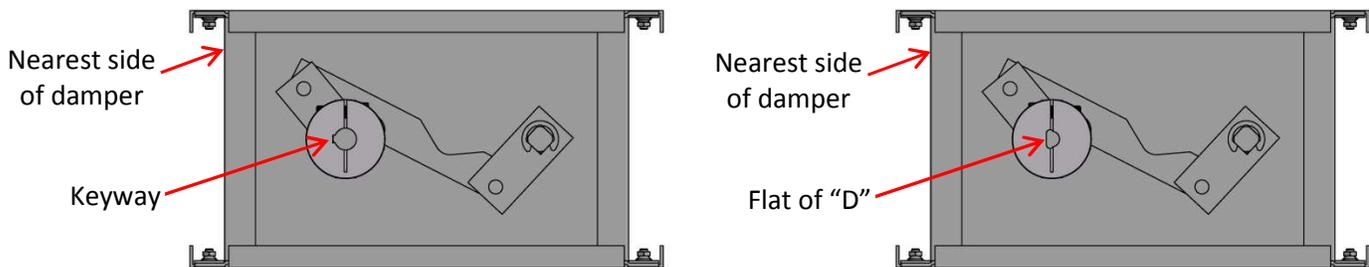

Figure 9: Coupling Alignment
5. Open the damper to its fully open position. Slide the coupling over the damper shaft so that the keyway (for SQM48 actuators) or flat of the "D" (for SQM33 and SQM45 actuators) points towards the nearest side of the damper as shown in Figure 9 below. Note that on 3-blade dampers, the coupling is mounted to the center 14mm shaft, so the keyway or flat of the "D" may point towards either side of the damper.